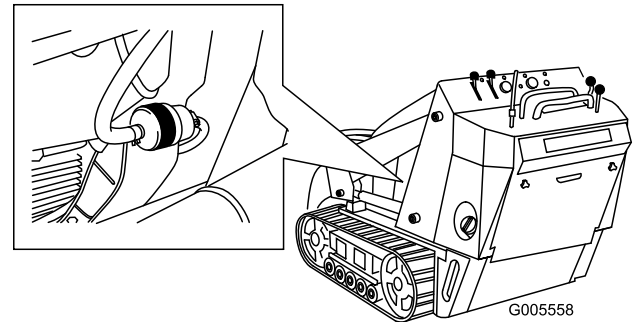

Figure 42
4. Clamp the fuel lines on both sides of the fuel filter (Figure 42).
5. Squeeze the ends of the hose clamps together and slide them away from the filter (Figure 42).